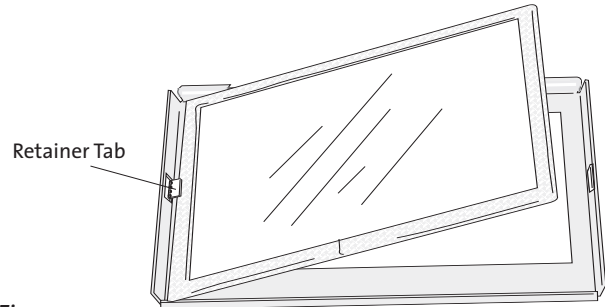

Figure 40.
4. Place the glass panel within the frame oriented with the gasket seam at the bottom and the thinner side of the gasket against the frame. Carefully bend the retainer tabs back only enough to secure the glass panel. See fig. 40.